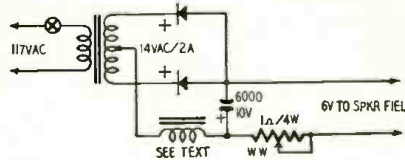

Fig. 1—A simple full-wave rectifier.
A. Most electrodynamic auto radio speakers have 4-ohm fields which require approximately 1.5 amp at 6 to 6.5 volts d.c. Suitable supplies are shown in Figs. 1 and 2. However, the cost of the supply components is likely to be greater than a medium-priced extended-range 8- or 12-inch PM speaker which we would recommend for a console radio.
A full-wave center-tapped rectifier is shown in Fig. 1. This circuit can be
stocks. The rectifier may be a Mallory 1B12C1J, Seletron U1B1S1B, or equivalent. Filter chokes in Figs. 1 and 2 should have an inductance of about .05 henry and a current capacity of at least 2 amp. These are not generally available on the open market. You can construct a suitable choke by removing the winding from a 100-ma receiving-type choke and replacing the winding with No. 14 cotton-covered enameled wire. Adjust the air gap for best filtering action.